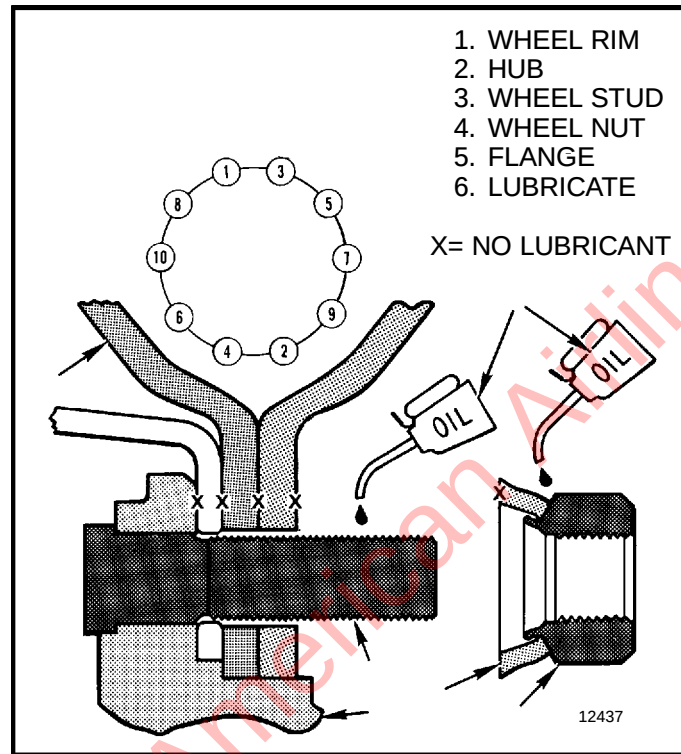

FIGURE 30. INSTALL THE WHEELS
Install the Wheels (See FIGURE 30.)
2. Lubricate the studs and nuts as shown in FIGURE 30. Do not get any oil on the outer surfaces of the wheel or the flange of the nut.